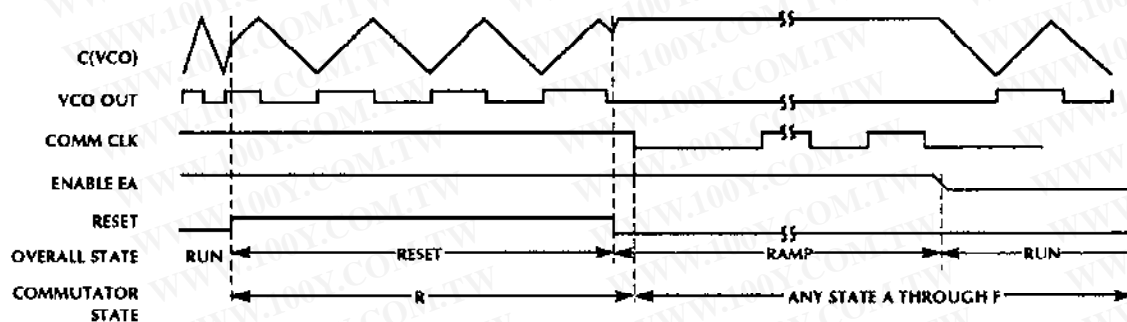

Figure 5. Start up sequencing (from stop)
Note 1. For explanation of states, see Figure 5 and Table 1.
- STEP 1** The IC is held in reset state until the platters are steady by setting pin 17 and pin 19 to a '1', with full power applied to the winding (see figure 5). This aligns the rotor to a position which is 30° (electrical) before the center of the first commutation state. Pin 20 is held at 0.5V internally. Microprocessor needs to measure VCO frequency by setting pin 27 to a '1' and then store it.